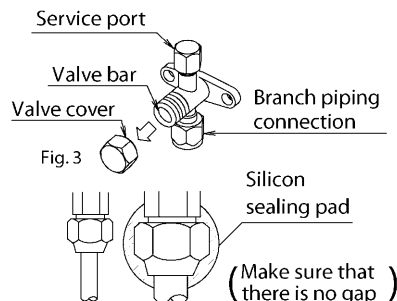

Fig. 4
3. For cooling operation under low ambient temperature or any other operation under low pressure, apply silicon sealing pad, etc. to prevent the freezing of flare nut of gas pipe portion of the stop valve. (Refer to Fig. 4)